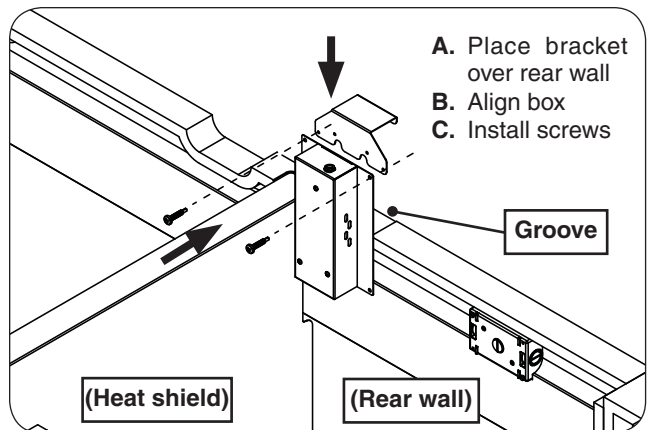

Fig. 13-2 Install power supply box
1. **First** place the power supply box bracket over the rear wall, in the groove just to the right of the heat shield (see Fig. 13-2).
2. Align the pilot holes on the power supply box with the holes on the bracket, then insert the two Phillips screws and tighten with the power drill and #2 Phillips driver (see Fig. 13-2). **DO NOT OVERTIGHTEN.**